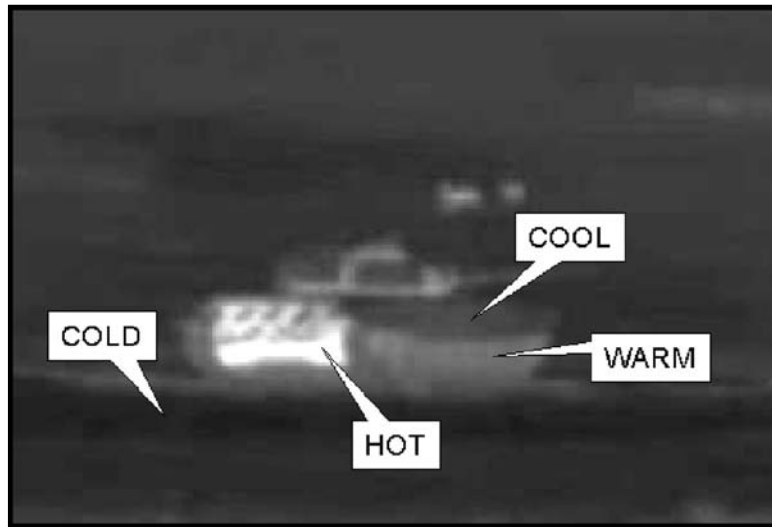

Figure C-7. Display of IR levels.
c. **Display of Infrared Levels.** The NVS displays IR levels as a change in brightness, according to each object's temperature. The coldest objects in a target scene appear black; the hottest appear bright green. Everything in between appears as increasingly brighter shades of green as each object's temperature increases. For example, the engine compartment on a tank with its engine running appears bright green (Figure C-7, page C-6). Since the hull generally is the coldest part of a tank, it appears